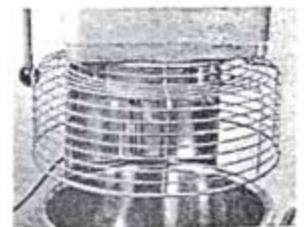

Fig. 8
2. Rotate the bowl guard so that it locks into the closed position as shown in fig. 8. NOTE: The mixer will not operate if the bowl guard is not in the closed position.